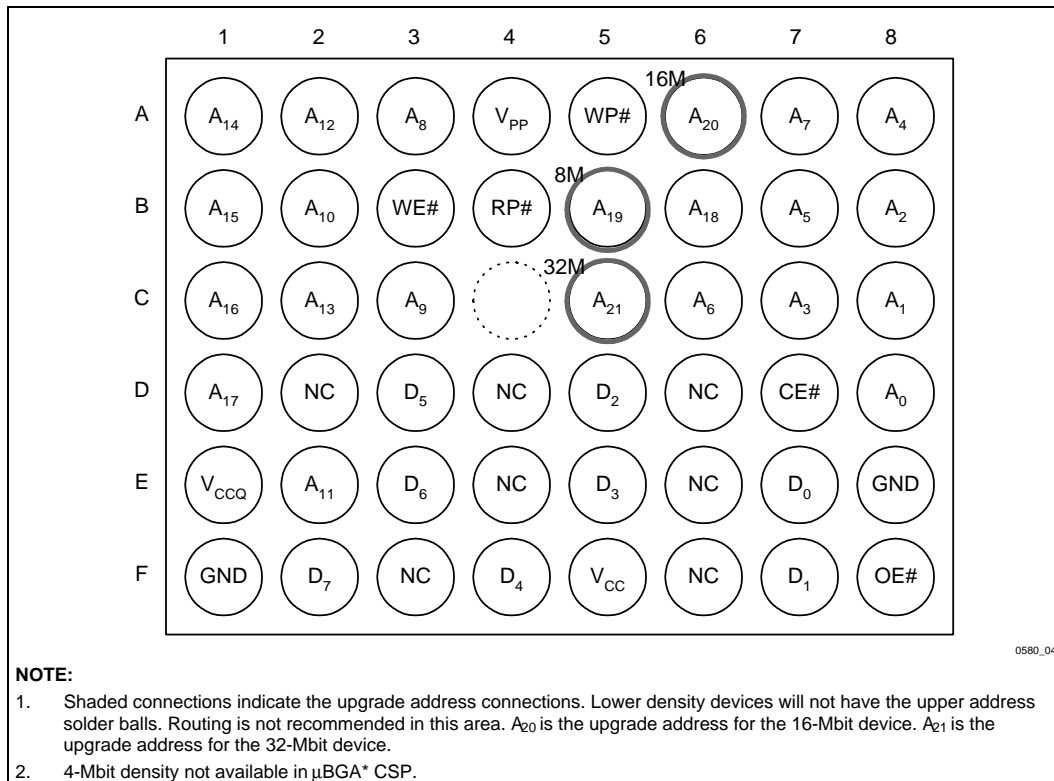

Figure 3. x8 48-Ball μBGA\* Chip Size Package (Top View, Ball Down)
| -005   | <p>µBGA package diagrams corrected (Figures 3 and 4)</p> <p>IPPD test conditions corrected (Section 4.4)</p> <p>32-Mbit ordering information corrected (Section 6)</p> <p>µBGA package top side mark information added (Section 6)</p>   |
| Packages                       | 40-lead TSOP (1) , 48-Ball$\mu$ BGA* CSP (2)   | 48-Lead TSOP, 48-Ball$\mu$ BGA CSP (2)  | Figure 3, Figure 4        |
The Smart 3 Advanced Boot Block flash memory is available in 40-lead TSOP (x8, Figure 1), 48-lead TSOP (x16, Figure 2) and 48-ball  $\mu$ BGA packages (x8 and x16, Figure 3 and Figure 4 respectively). In all figures, pin changes necessary for density upgrades have been circled.